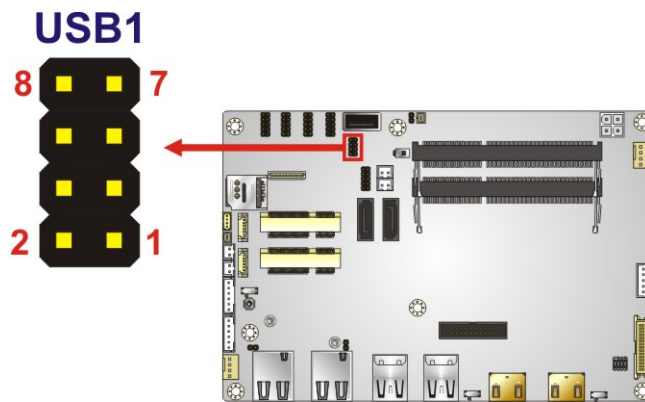

Figure 3-27: USB Connector Location
- CN Location:** See **Figure 3-27**